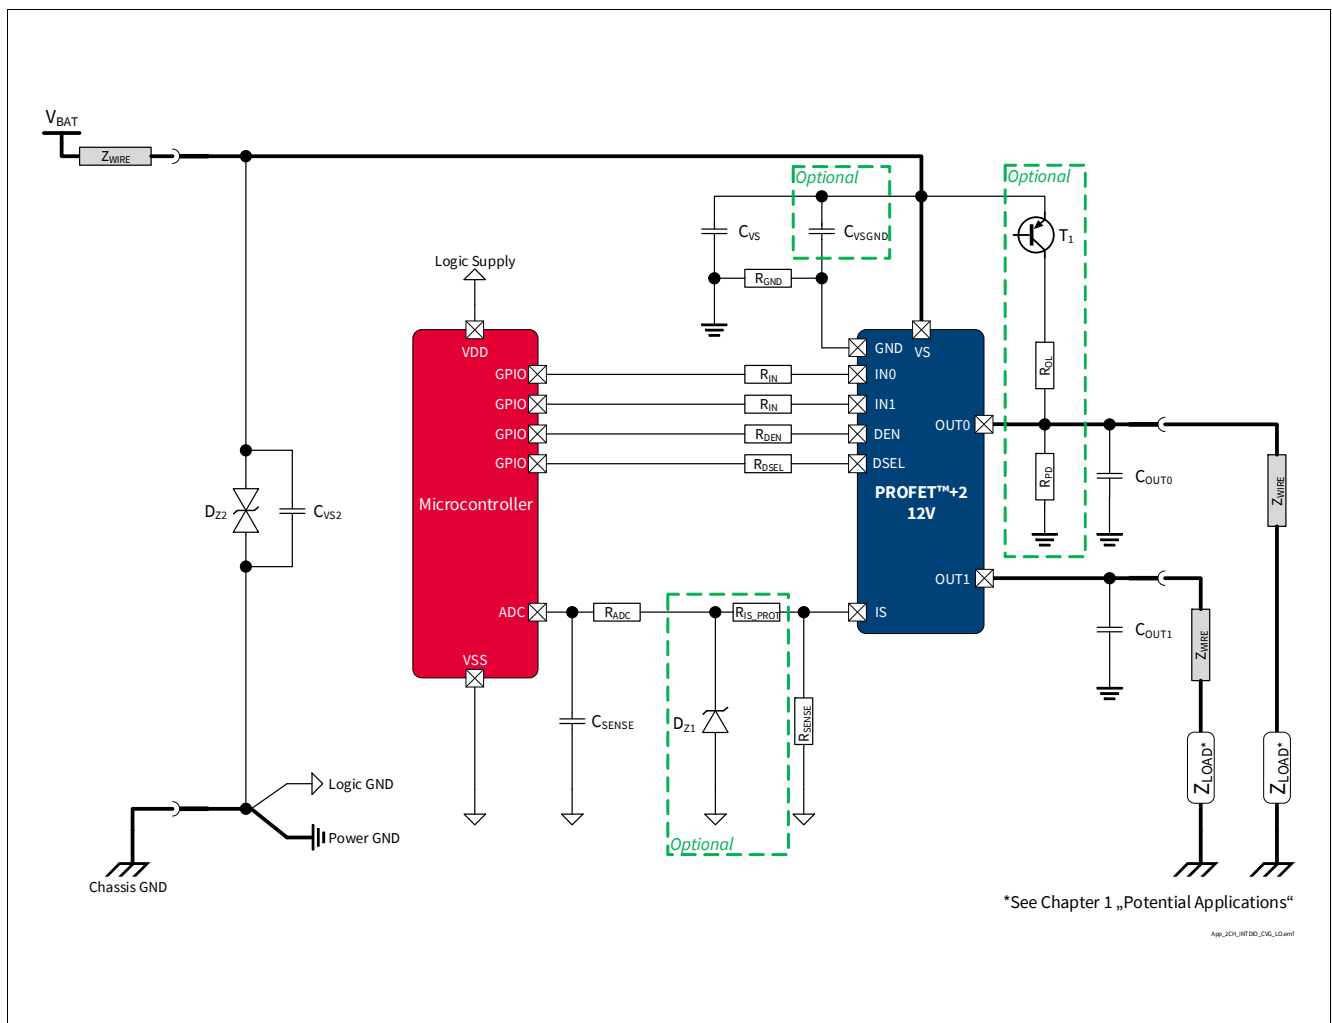

Figure 43 BTS7080-2EPA Application Diagram
1.05 , 2019-10-15	P_8.7.7.1, P_8.7.7.7, P_8.7.7.8 updated (added in Note or Test Condition: link to Figure 25) P_7.5.7.4, P_7.5.7.5 updated (added in Note or Test Condition: DEN = “low”; link to Figure 19) P_7.5.7.12 updated (added in Note or Test Condition: see Figure 21 ; deleted unnecessary space in Symbol: $ dV_{OUT} / dt \rightarrow dV_{OUT} / dt $) P_8.7.7.6 updated (added in Note or Test Condition: see Figure 26) P_9.7.7.1 updated (added in Note or Test Condition: see Figure 34) P_9.7.7.5 updated (Min./Typ./Max.: -45%/1800/+45% → -28.0%/1750/+28.0%) P_9.7.7.6 updated (Min./Typ./Max.: -40%/1800/+40% → -25.5%/1750/+25.5%) P_9.7.7.8 updated (Min./Typ./Max.: -35%/1800/+35% → -23.5%/1750/+23.5%) P_9.7.7.12 updated (Min./Typ./Max.: -26%/1800/+26% → -19.0%/1750/+19.0%) P_9.7.7.15 updated (Min./Typ./Max.: -11%/1800/+11% → -9.8%/1805/+9.8%) P_9.7.7.17 updated (Min./Typ./Max.: -6%/1800/+6% → -6.0%/1805/+6.0%) P_9.7.7.19 updated (Min./Typ./Max.: -5%/1800/+5% → -4.5%/1805/+4.5%) P_7.5.7.11 updated (added in Note or Test Condition: see Figure 19) Figure 1 , Figure 43 updated Chapter 1 updated (or LED equivalent → or equivalent electronic loads (e.g. LED modules)) P_4.3.0.7 added Table 24 updated Chapter 5.1 updated (added: see Chapter 10 for the complete application setup overview)